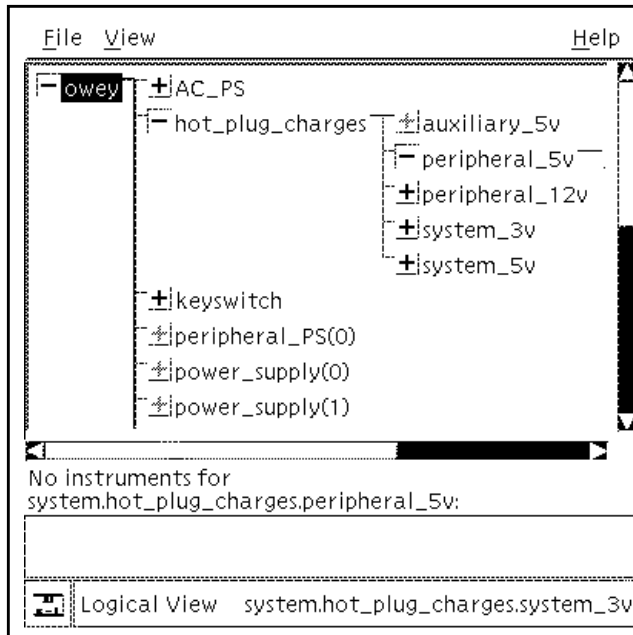

FIGURE 3-5 The Logical View
The Logical View, a companion view of the Physical View, displays the components in a schematic hierarchy (see FIGURE 3-5) instead of showing pictures of the front or rear views. Like the Physical View, the Logical View shows detailed information about the status of many components in the server. If a component is responsible for generating an event, it and all higher level components are highlighted in a color (see TABLE 3-2), so you can quickly locate the component causing problems.
A button to the left of each component in the hierarchy is displayed (see FIGURE 3-5). The two states of the button are:
- Collapsed (+), which contracts the entire hierarchy below the point you are at. The AC_PS component in FIGURE 3-5, noted by a + sign, shows a collapsed display. The hierarchy below the AC_PS component is *not* displayed.
- Expanded (-), which displays the hierarchy below the point you are at one level at a time. The server owey in FIGURE 3-5, noted by a - sign, shows the expanded display to the right.